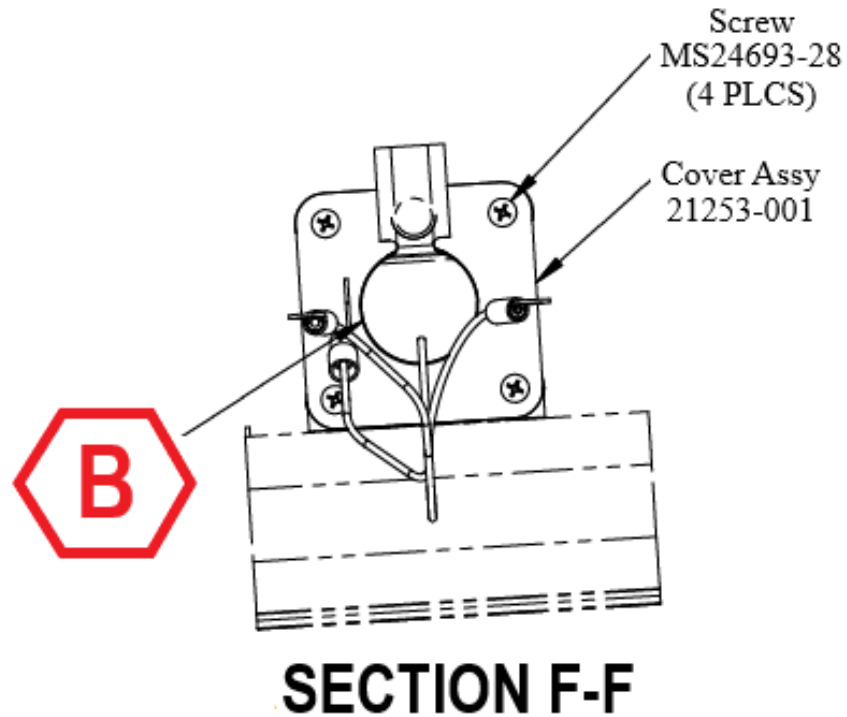

Figure 3: Section F-F Showing Cover Assembly for T660 Aircraft
5. Drill 1.00 inch hole through lower wing skin from Turn Light Assy 33401004-001. Refer to Figure 3, section B